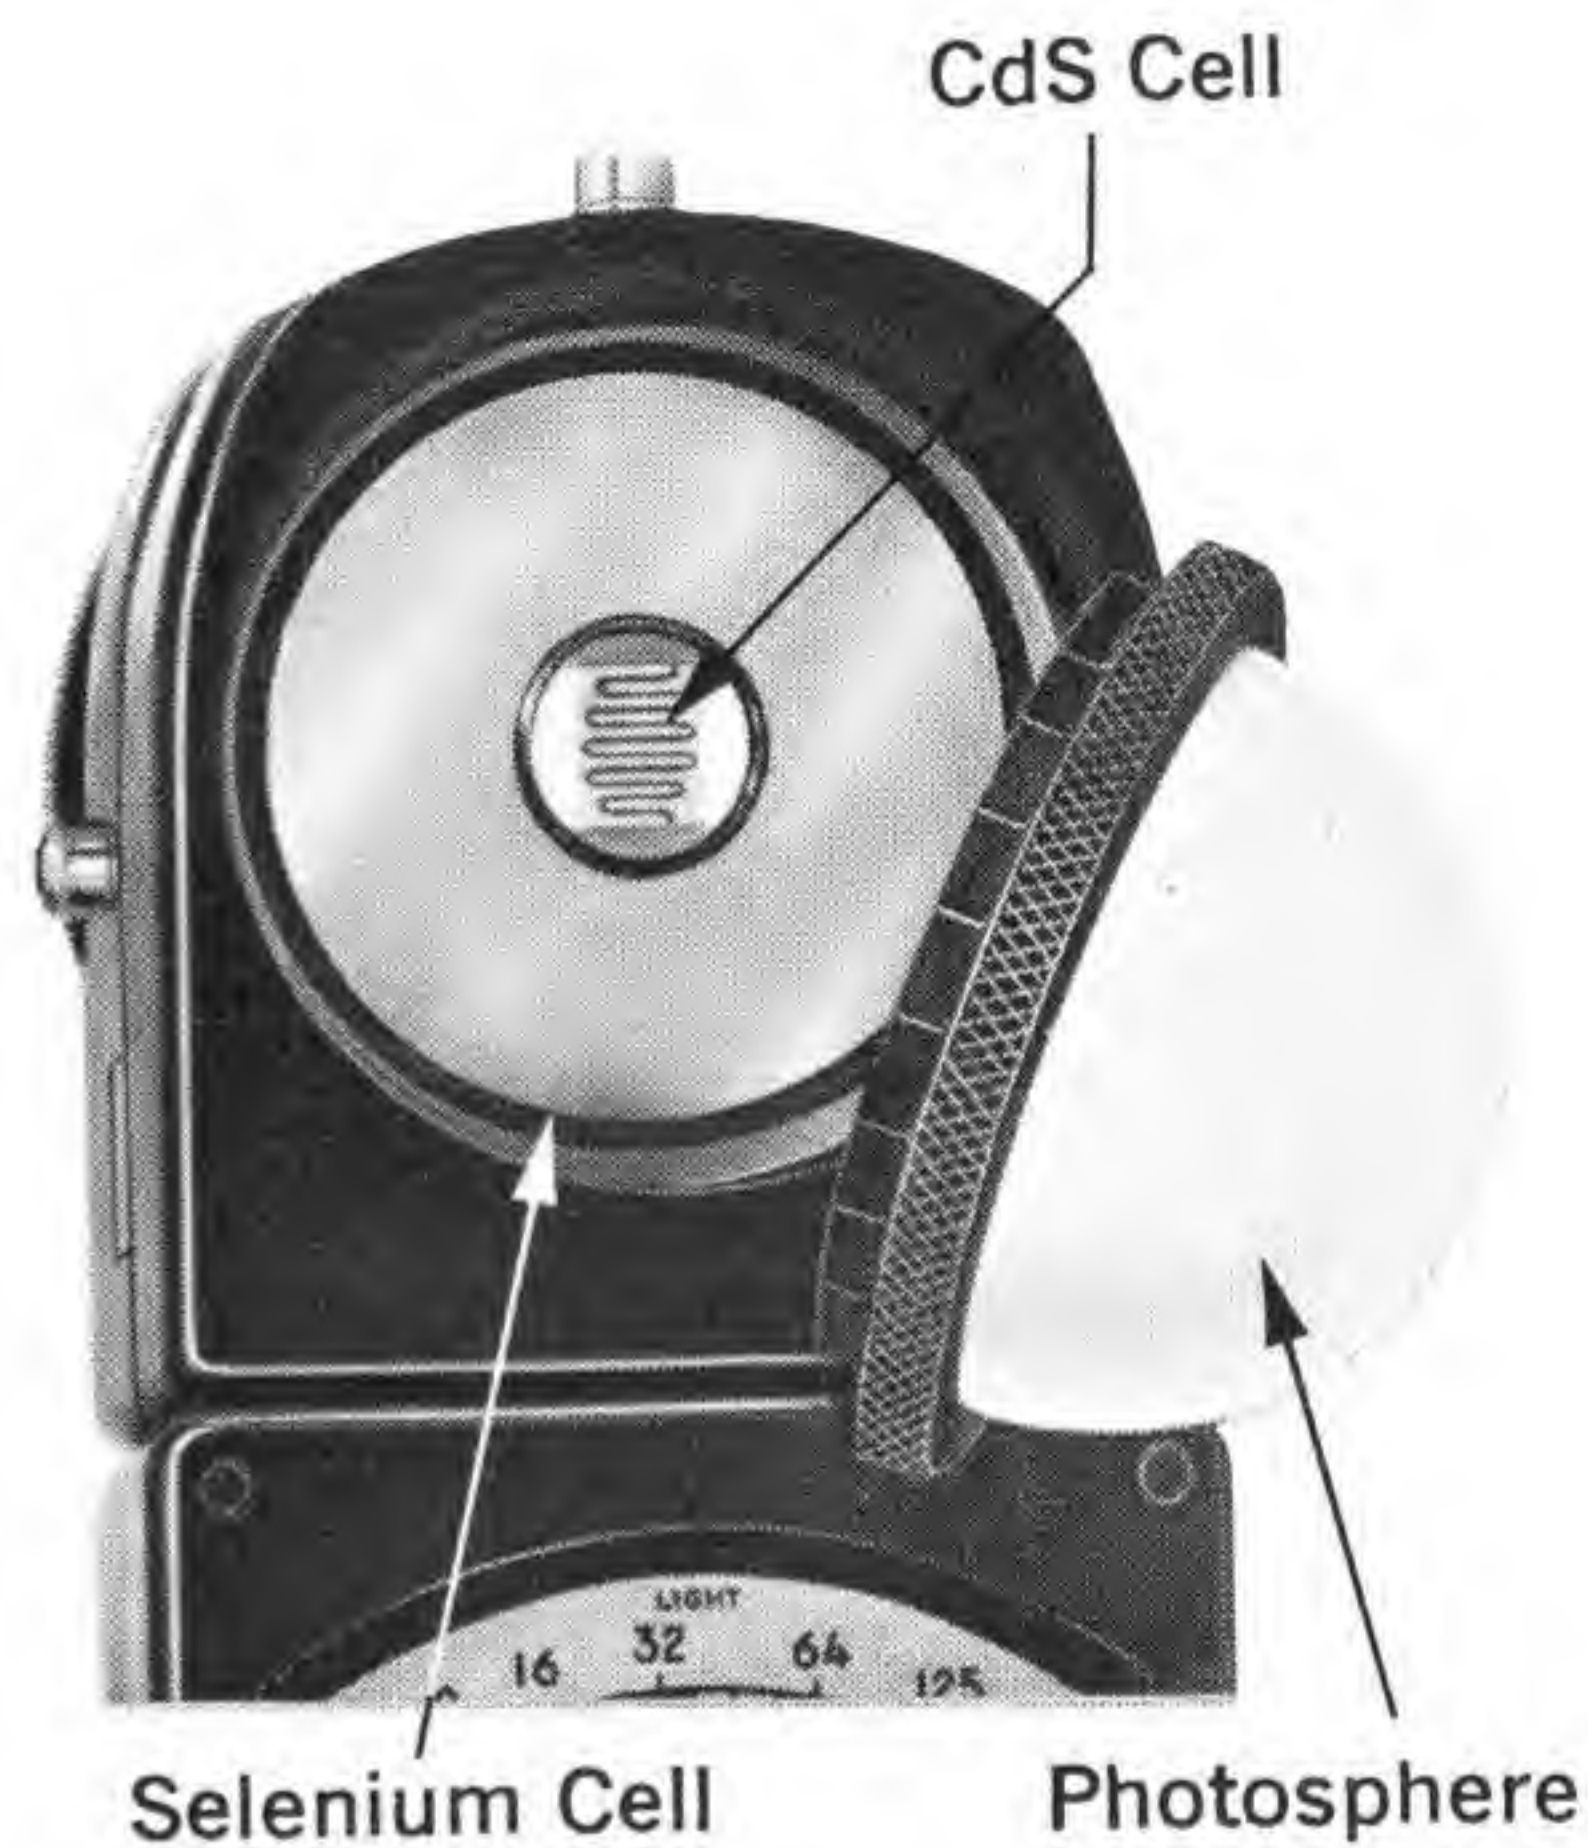

Figure 5
COMBI BOOSTER CIRCUIT: (Figure 5 — Page 17)
When the level of light falls below the normal sensitivity (10 fc. or less) of the COMBI-500, a “boost” of 100 times sensitivity is obtained by switching to the CdS booster circuit. (Figure 5).
BATTERY TEST: (Figure 5 — Page 17)
- 1) Push battery holder out (with large coin) of battery slot. (10, FIG. 5)